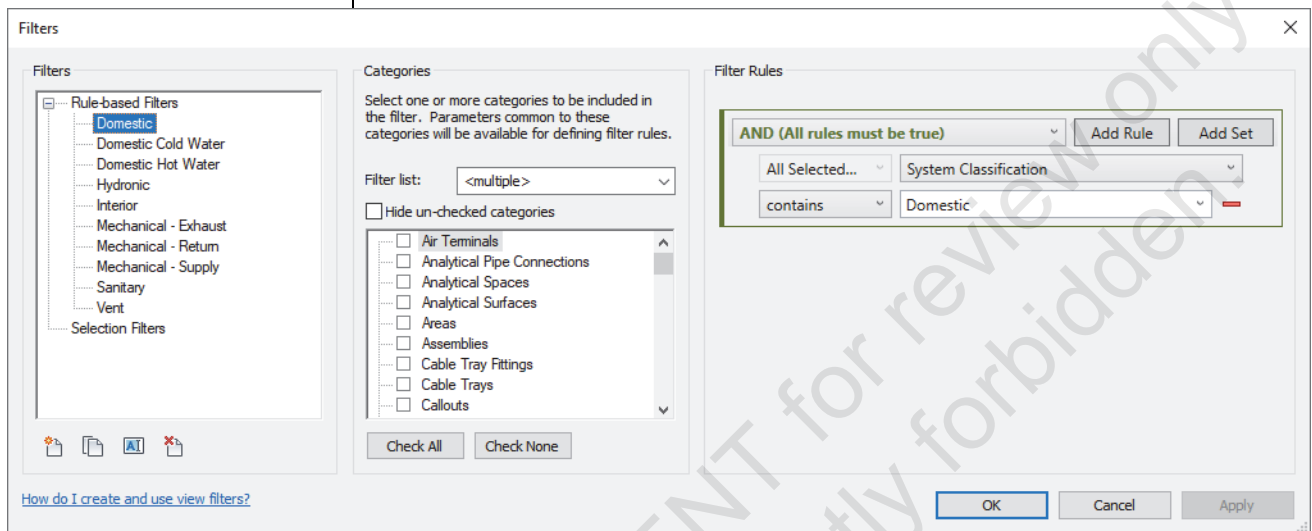

Figure 1–106
2. In the *Filters* area, select the **Rule-based Filters** node or an existing filter and click  (New) or  (Duplicate), as shown in Figure 1–107. Name the new filter and click **OK**.